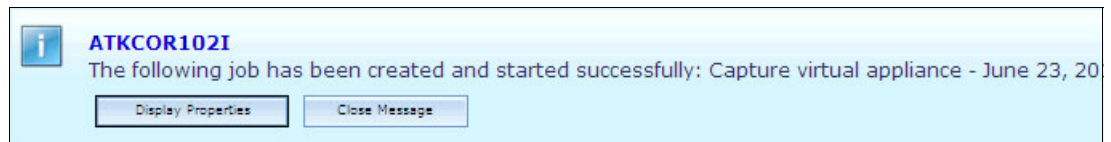

Figure 9-155 Capture job status
16. Click **Display Properties** to check the job status as shown in Figure 9-155.